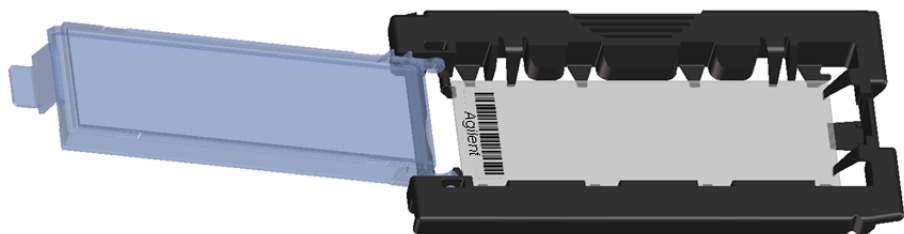

Figure 19. Slide inserted in slide holder – cover open
- c Gently lower the slide into the slide holder. See **Figure 19**.